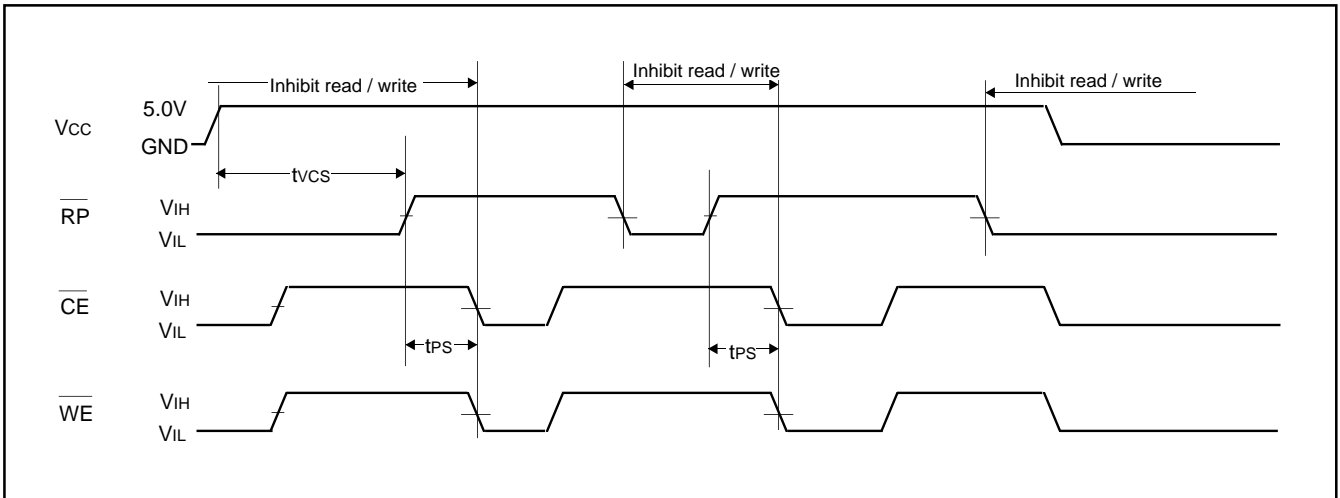

Fig. 118 Vcc power up / power down timing
**Note :** Timing measurement condition is showed in Figure 118.